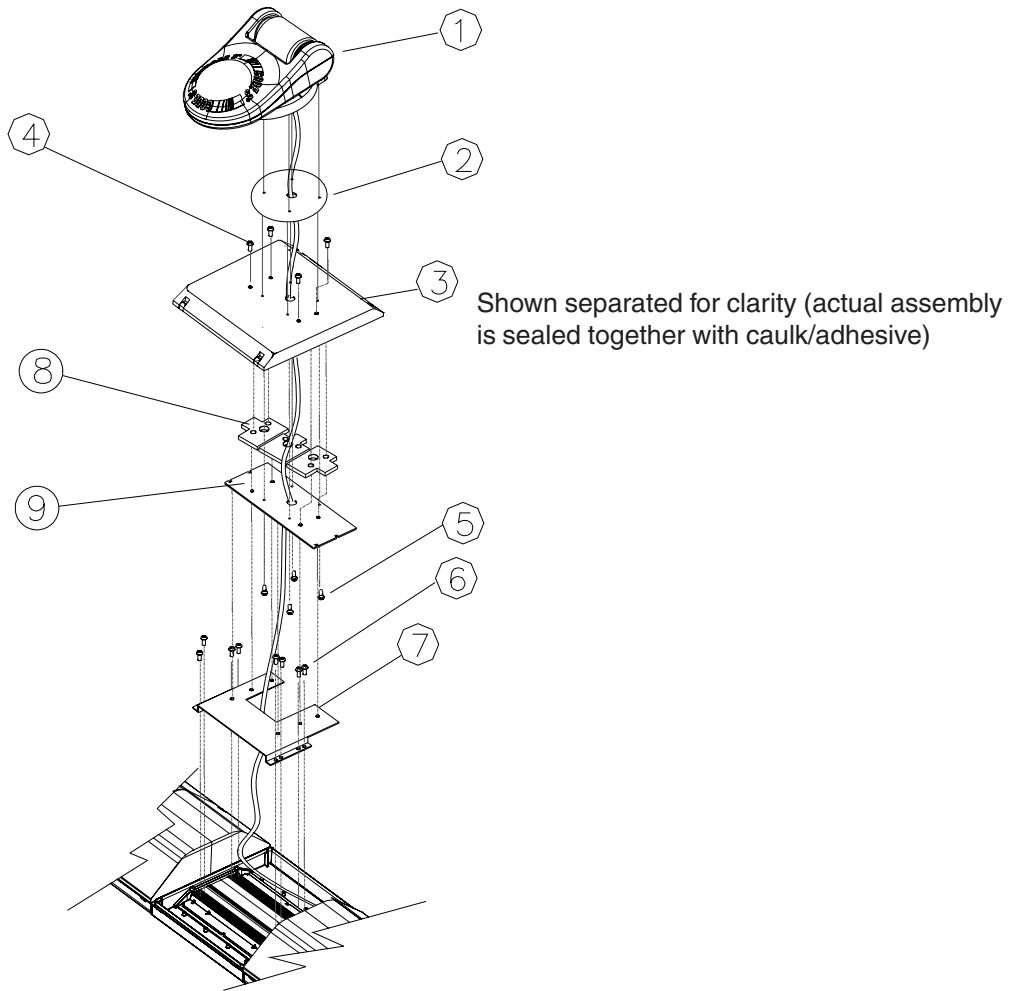

Figure 2
2. Route the cables from the bottom of the spotlight through the gasket, lens cover as shown in Figure 2.